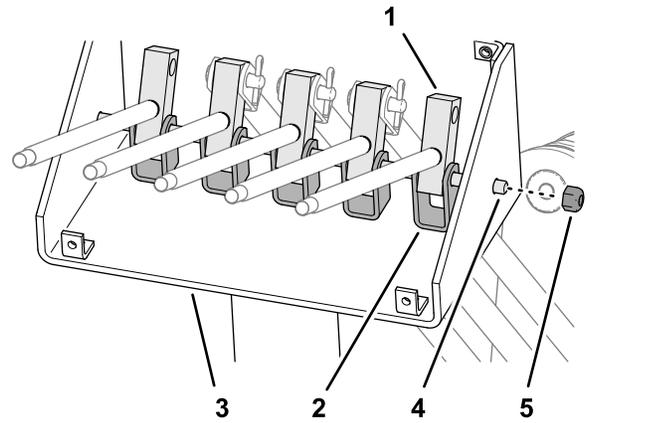

Figure 26
6. Insert the pivot pin through the holes in the rightmost control-link bracket, lever blocks, and the control console (Figure 26).
7. Secure the pivot pin to the console with the locknut (Figure 26).